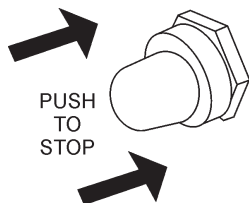

Figure 72. Emergency Stop Button
1. **PUSH** inward the emergency stop button located on the **engine operating panel** (Figure 72) to turn off the generator in the event of an emergency. This button is located on either Engine Operating Panel.